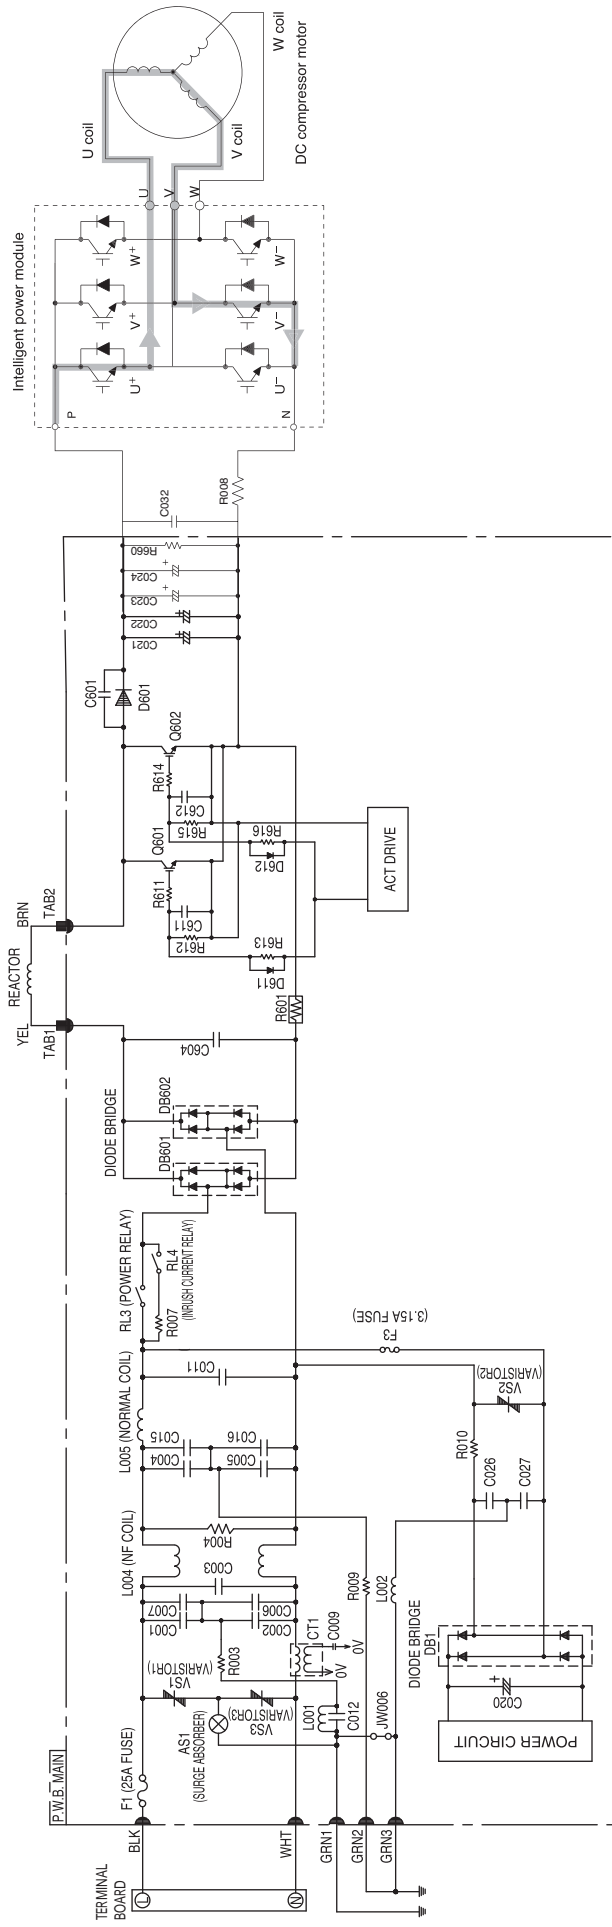
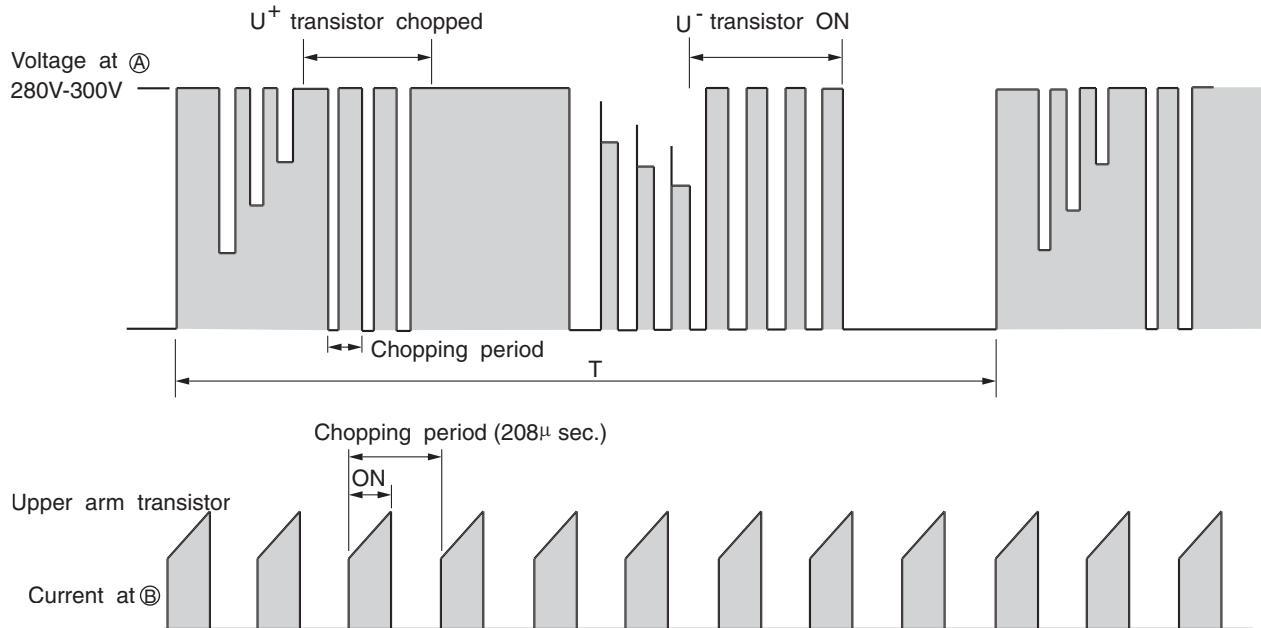

Fig. 7-1 System power module circuit (U+ is ON, V- is ON)
Fig. 7-3 Voltage waveform at each point
Fig. 7-1 shows peripheral circuits of intelligent power module (IPM).
At point E : U+ is ON, V- is ON (circuit in Fig. 7-1)
Fig. 7-3 shows voltage waveform at each point shown in Figs. 7-1 and 7-4. First half of upper arm is chopper, second half is ON, and first half of lower arm is chopper, second half is ON.
- (1) When U+ transistor is ON: U+ transistor → U coil → V coil → V- transistor → DC current detection resistor → Point B (Fig. 7-3)
Since current flows at point ② only when U+ transistor and V- transistor are ON, the current waveform at point ② becomes intermittent waveform as shown in Fig. 7-3. Since current at point ② is approximately proportional to the input current of the air conditioner, input current is controlled by using DC current (Id) detection resistor.